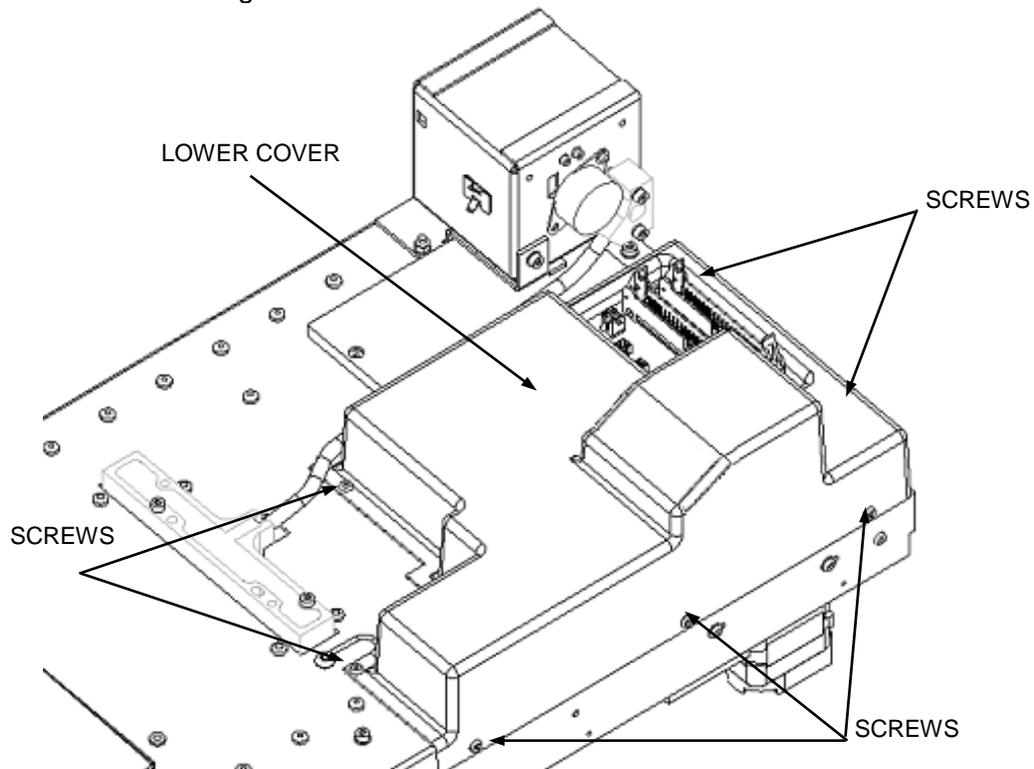

Figure 12-10: Attaching the Lower Cover
1. The Lower Cover is attached to the back board and the chassis by seven screws as shown in Figure 12-10.